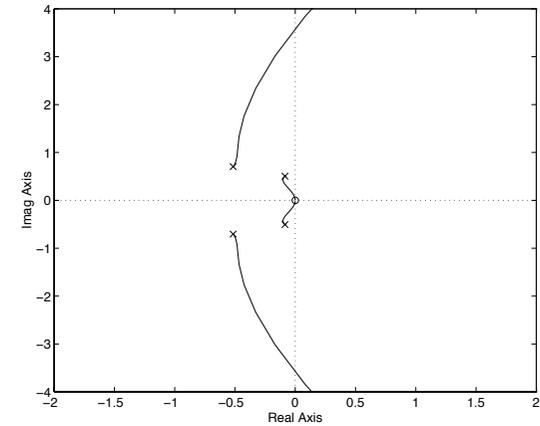

Figure 3.21c
c) The root locus with respect to  $K_D$  is shown in Figure 3.21c. When  $K_D$  increases the complex poles closest to the origin move towards the origin and at the same time the damping of the poles is increased. When  $K_D$  increases even more the second pair of complex poles moves towards the imaginary axis giving a high frequency oscillation which finally gives instability.